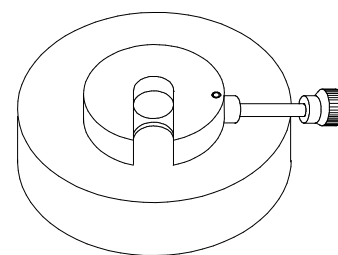

Fig. 5
- Push the groove of the buffer tray onto the peg-shaped piece of the specimen orientation (fig. 5).